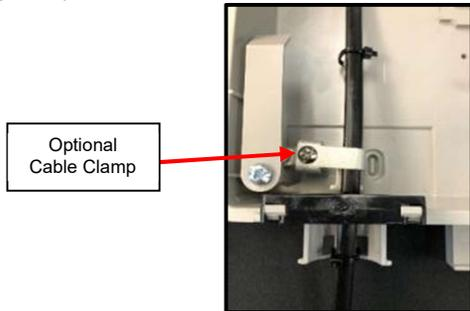

Figure 3
- a. If unit purchased includes optional Cable Entry Clamp, secure jacketed fiber under clamp (figure 3).